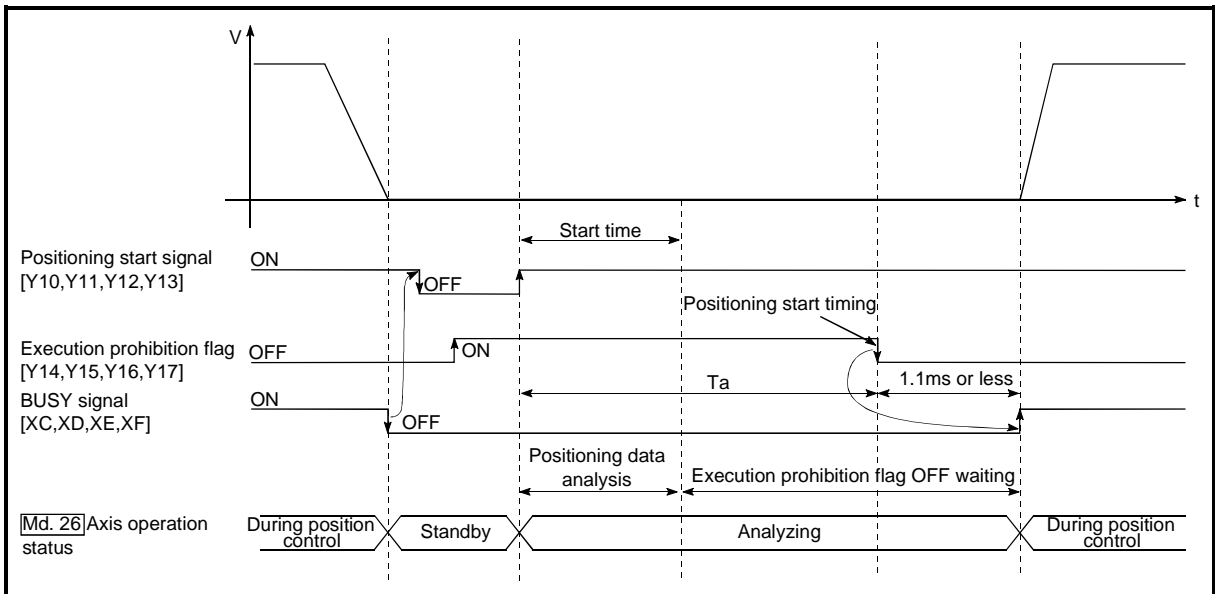

Fig. 12.48 Operations of pre-reading start function
The pre-reading start function is performed by turning ON the positioning start signal [Y10, Y11, Y12, Y13] with the execution prohibition flag [Y14, Y15, Y16, Y17] ON, or by executing the dedicated instruction (PSTRT1, PSTRT2, PSTRT3, PSTRT4). However, if positioning is started with the execution prohibition flag ON, the positioning data is analyzed but servo start is not provided. While the execution prohibition flag is ON, "Md.26 Axis operation status" remains unchanged from "5: Analyzing". Pulse output starts within 1.1ms after the execution prohibition flag [Y14, Y15, Y16, Y17] has turned OFF, and "Md.26 Axis operation status" changes to the status (e.g. during position control, during speed control) that matches the control system. (Refer to Fig. 12.48)
Hence, pre-reading of the next data starts during the stop time  $T_w$ . If  $T_w$  is a certain period of time, the analysis of the next data is completed during that period, and the system is placed in an execution prohibition flag OFF waiting status. Therefore, replacing the positioning start timing at ② with the execution prohibition flag OFF allows the time from when the axis operation request turns ON until pulse output starts to be reduced to within 1.1ms in the PLC program. (Refer to Fig. 12.48)